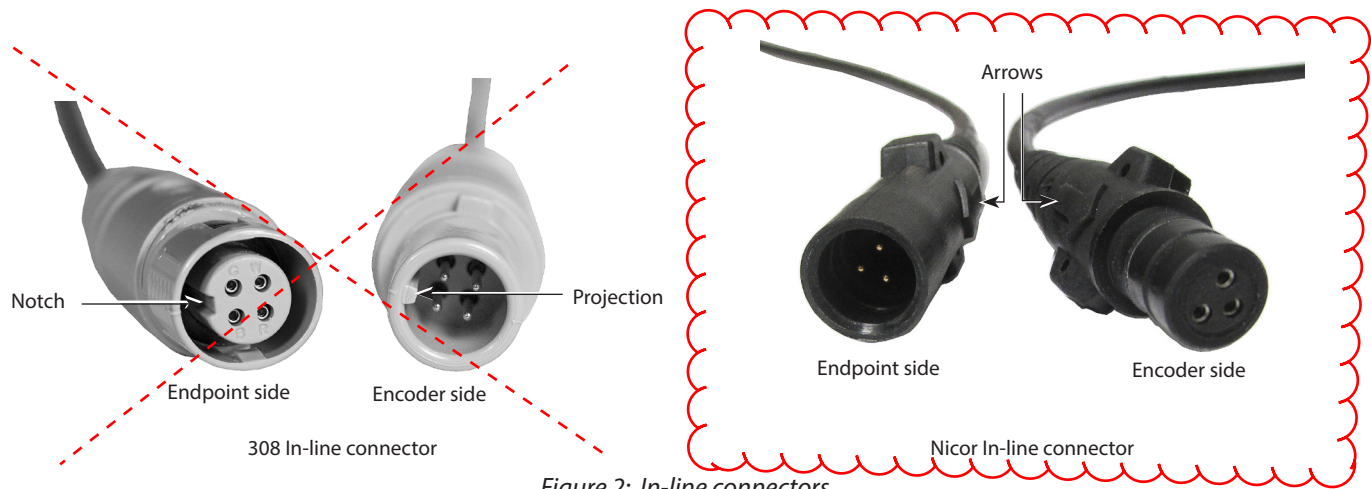

Figure 2: In-line connectors
An in-line connector is an optional feature that allows connectivity to AMR/AMI devices without the need for a field splice kit. When the endpoint and encoder have connectors, join the connector ends as shown in Figure 2. With the proper orientation, the connector ends go together easily.
- With 308 in-line connectors, align the notch on one connector (endpoint side) with the corresponding projection on the other (encoder side) and push the ends together for the correct fit. See *308 In-line connector*, Figure 2.
- With Nicor in-line connectors, hold the connector ends with the arrow side up, point the arrows toward each other and push the ends together for the correct fit. See *Nicor In-line connector*, Figure 2.